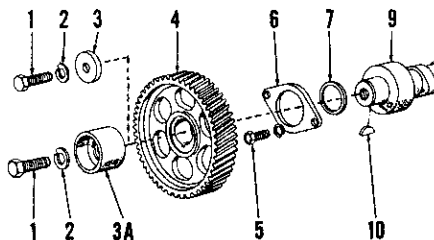

Fig. 77-Drawing showing assembly of camshaft gear to camshaft. Flat washer (3) is used on diesel engines; fuel pump eccentric (3A) is used on gasoline engines.
84. CAMSHAFT GEAR. To remove the camshaft gear, remove cap screw (1—Fig. 77), lockwasher (2) and washer (3) on diesel models or fuel pump eccentric (3A) on gasoline models; then, pull gear from shaft. Gear should be a hand push fit on shaft. With gear removed, inspect drive key (10), thrust plate (6) and spacer (7) and renew if damaged in any way.